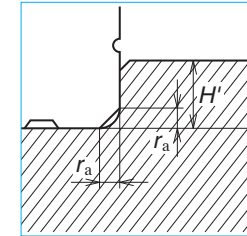

Fig. 10.10 Shoulder for the rail datum surface
(1) Shoulder height of the mounting surface of the machine base and corner radius r
• **Figs. 10.10 and 10.11**, show shoulder height of the mounting surface of the machine base and the size of corner radius. These figures are relevant when the linear guide is pressed to the shoulder of the machine base or table (the raised section from where the mounting surface begins), and horizontally secured to it. Recommended sizes are shown in the clause of "Shoulder height and corner radius r" of each series introduction.